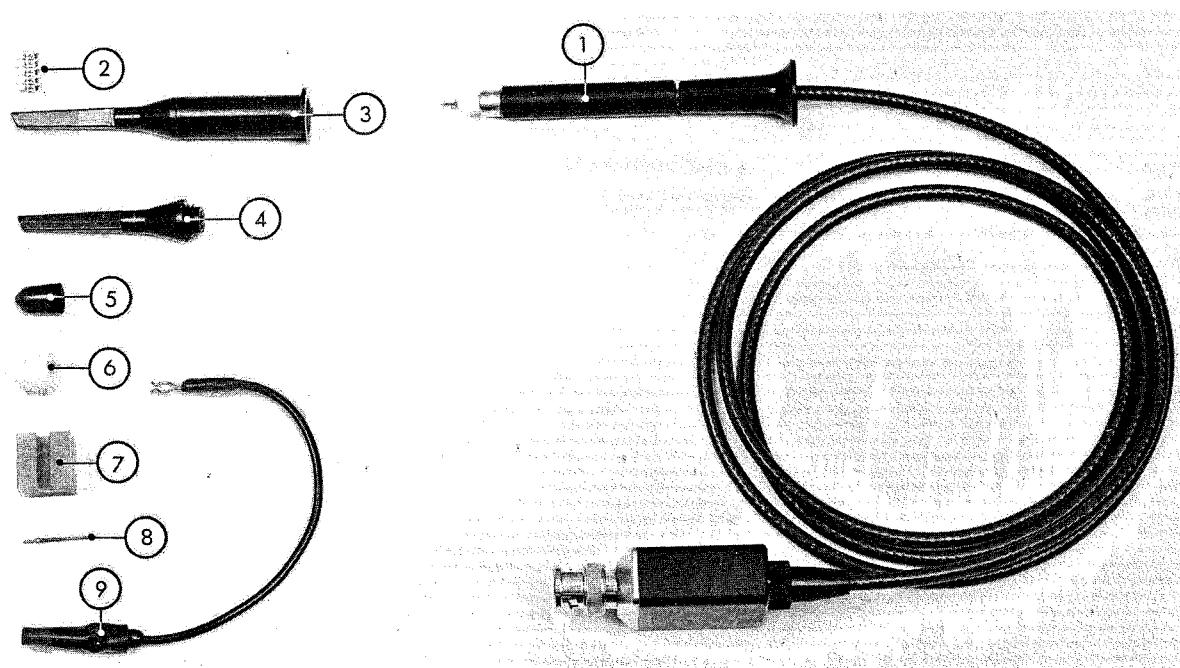

Fig. 3.29. Attenuator probe set PM 9358
| 1 probe assembly | Fig. 3.29, item 1 |
| 5 soldering terminals | Fig. 3.29, item 2 |
| 1 test hook | Fig. 3.29, item 3 |
| 1 spare test hook sleeve | Fig. 3.29, item 4 |
| 1 protective cap | Fig. 3.29, item 5 |
| 1 insulating cap | Fig. 3.29, item 6 |
| 1 probe holder | Fig. 3.29, item 7 |
| 2 spare test pins | Fig. 3.29, item 8 |
| 1 earthing cord | Fig. 3.29, item 9 |